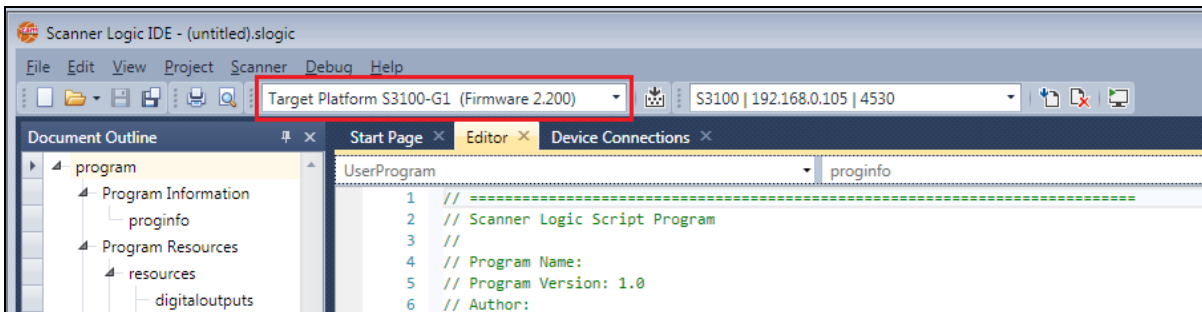

Figure 5.2—Target Platform selector
1. To select a target platform, choose **Scanner>Change Target Platform** or click in the Target Platform selector (*Figure 5.2*) and select the desired target platform.